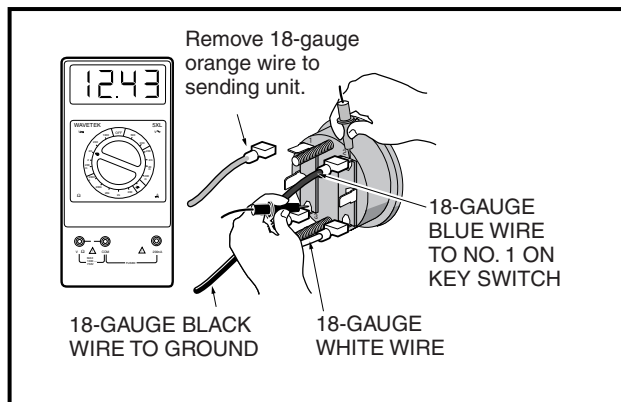

Figure 11-54 Fuel Gauge Test
7. Set a multimeter to 20 volts DC and place the red (+) probe of the multimeter on the (2) terminal of the fuel gauge/hour meter with the blue wire. Place the black (–) probe on the (3) terminal of the fuel gauge/hour meter with the black wire (**Figure 11-54, Page 11-44**).
9. Turn the key switch ON. The voltage reading should be the same as the battery voltage reading recorded earlier. If not, check the continuity of the blue and black wires (**Figure 11-54, Page 11-44**).